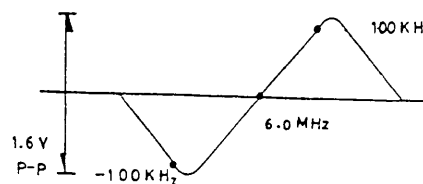

Fig 5.
- 4: Adjust T102 to obtain the waveform as in fig 5.